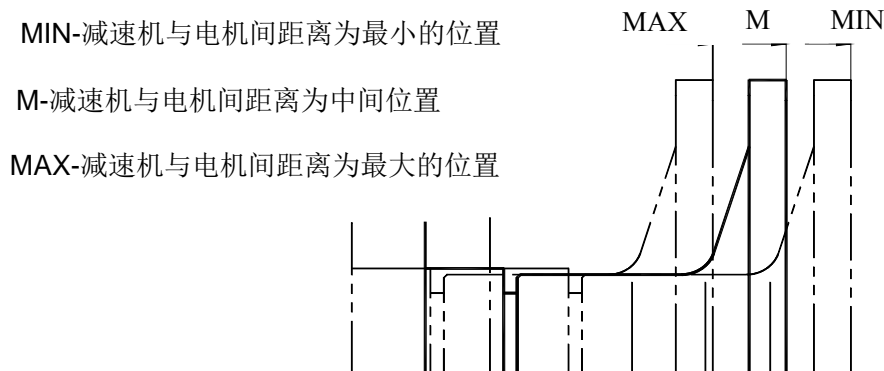

Fig.2
(1). 电机的转子一般有一定的轴向窜量, 在留轴向尺寸时应把电机的转子置于中间位置 M 如图 2。
(1) The motor's rotor normally has some axial float, in this case, the rotor should be placed in the middle, seeing Fig.2.